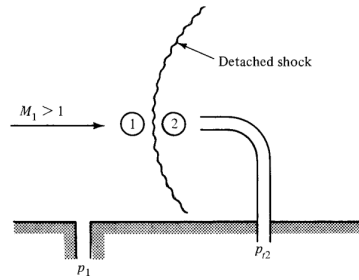

Figure 7.13
7.11 A pitot tube is installed in a wind tunnel in the manner shown in Figure 7.13. The tunnel air temperature is 500°R and the static tap (p_1) indicates a pressure of 14.5 psia .